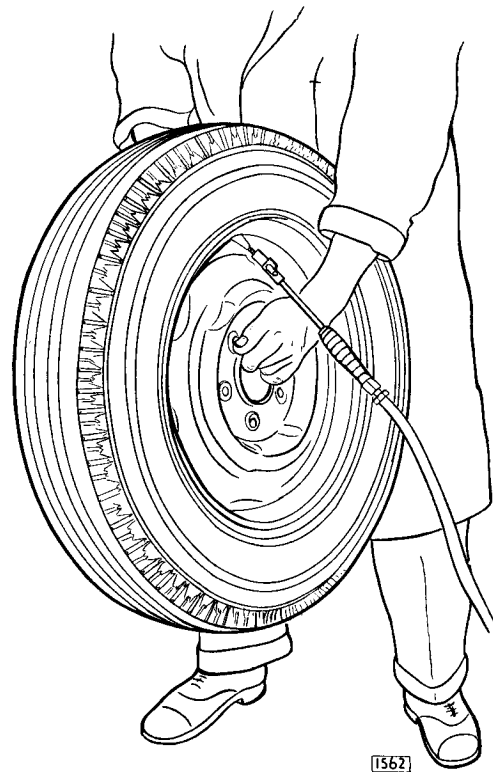

Fig. 18. Inflating and bouncing wheel to seal beads.
2. Connect air line and with the valve core removed inflate with the wheel and tyre upright. If the first rush of air does not seal the beads, bounce the tread of the tyre at several points round its circumference with the air line attached. (Fig. 18.)